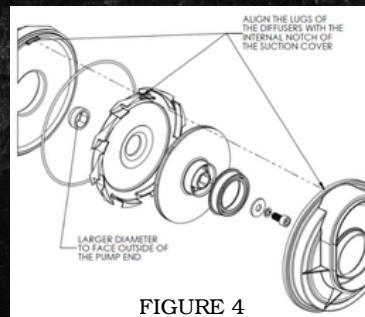

FIGURE 4
9. Install diffuser #10. Align the outside lug at 12 o'clock — see Figure 4.
10. Place spacer #12 on impeller #8. Orientation is critical — see Figure 4
11. Install diffuser #13. Align the outside lug at 12 o'clock — see Figure 4.
16. Install suction cover #17, aligning notches with lugs at 12 o'clock on diffusers #10 and #13. Orientation is critical — see Figure 4.